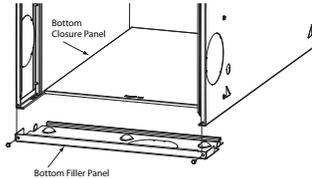

Fig. 8 – Removing Bottom Closure Panel
1. Tilt or raise furnace and remove two screws holding bottom filler panel (see Fig. 8).